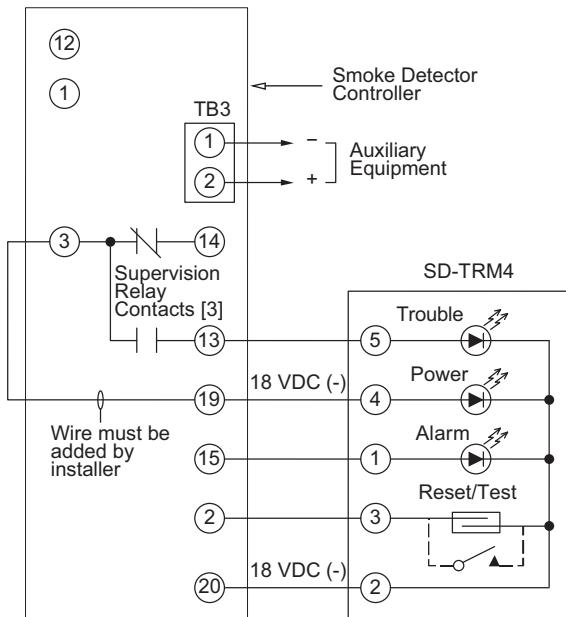

Fig. 55 – Remote Test/Reset Station Connections
The test/reset station dirty sensor test checks the test/reset station's ability to initiate a sensor dirty test and indicate the results. It must be wired to the controller as shown in Fig. 55 and configured to operate the controller's supervision relay. For more information, see "Dirty Sensor Test" on page 40.
1. Verify that the remote test/station is wired as shown in Fig. 55. Repair or replace loose or missing wiring.